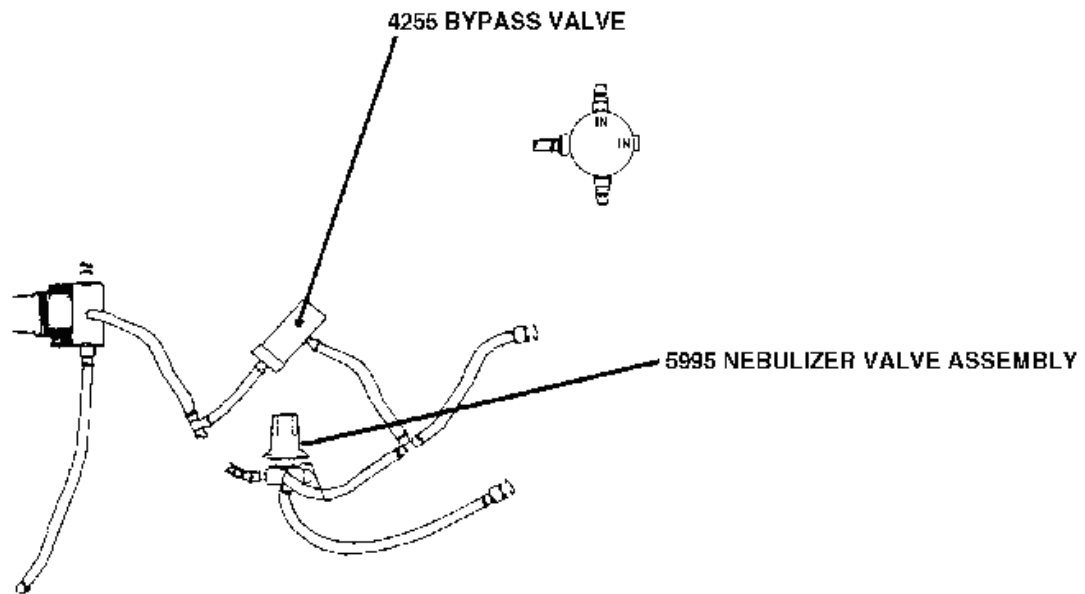

Figure 2-10. Flow regulator assembly.
- (1) Disconnect the unit from the source gas.
- (2) Use a screwdriver and remove the screws that hold the case together.
- (3) Slide the front panel forward.
- (4) Locate the cartridge on the bottom side of the front panel assembly.
- (5) With a crescent wrench, remove the two nuts which secure the cartridge to the case. These nuts are located outside the front panel.
- (6) With a crescent wrench, remove the lock nut on the end of the cartridge.
- (7) Gently (do not pull the hoses loose) pull the cartridge up.
- (8) Replace the five hoses one at a time to avoid mixing up the correct positions.
- (9) Remove and replace the cartridge.
- (10) Reassemble in the reverse order.
e. **Remove and Replace the Bypass Valve.** Refer to figure 2-10 and follow these procedures to remove and replace the bypass valve.
- (1) Turn off the source gas.
- (2) With a screwdriver, remove the screws that hold the case together.
- (3) Separate the case.
- (4) Locate the bypass valve inside the unit, directly behind the nebulizer valve.
- (5) Carefully remove the bypass valve and replace both hoses.
- (6) Reassemble in the reverse order.
f. **Remove and Replace the Nebulizer Valve.** Refer to figure 2-10 and follow these procedures to remove the nebulizer valve.
- (4) With an Allen wrench, remove the hex nut which holds the nebulizer knob on the valve shaft. Pull the knob off from the front of the unit.
- (5) With a crescent wrench, remove the nut which holds the valve body to the front case.
- (6) Carefully remove the nebulizer valve from inside the case.
- (7) Replace the hoses on the new valve.
- (8) Reassemble in the reverse order.